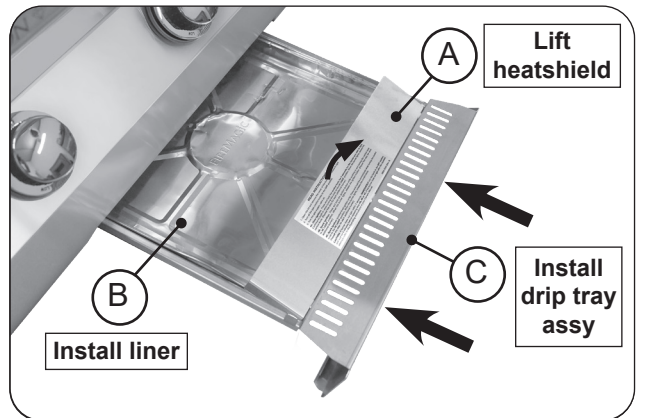

Fig. 27-3 Install drip tray
1. Lift the heatshield slightly, then place a liner into the drip tray (Fig. 27-3, A and B).
2. Then fully insert the drip tray assembly into the bottom front opening of the control panel (Fig. 27-3, C).